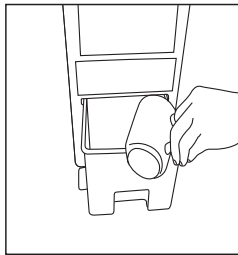

Fig. 2
4. Pull upwards the water tank and pull outwards about 10cm to the locking pin, then add water. (as shown in fig.2)